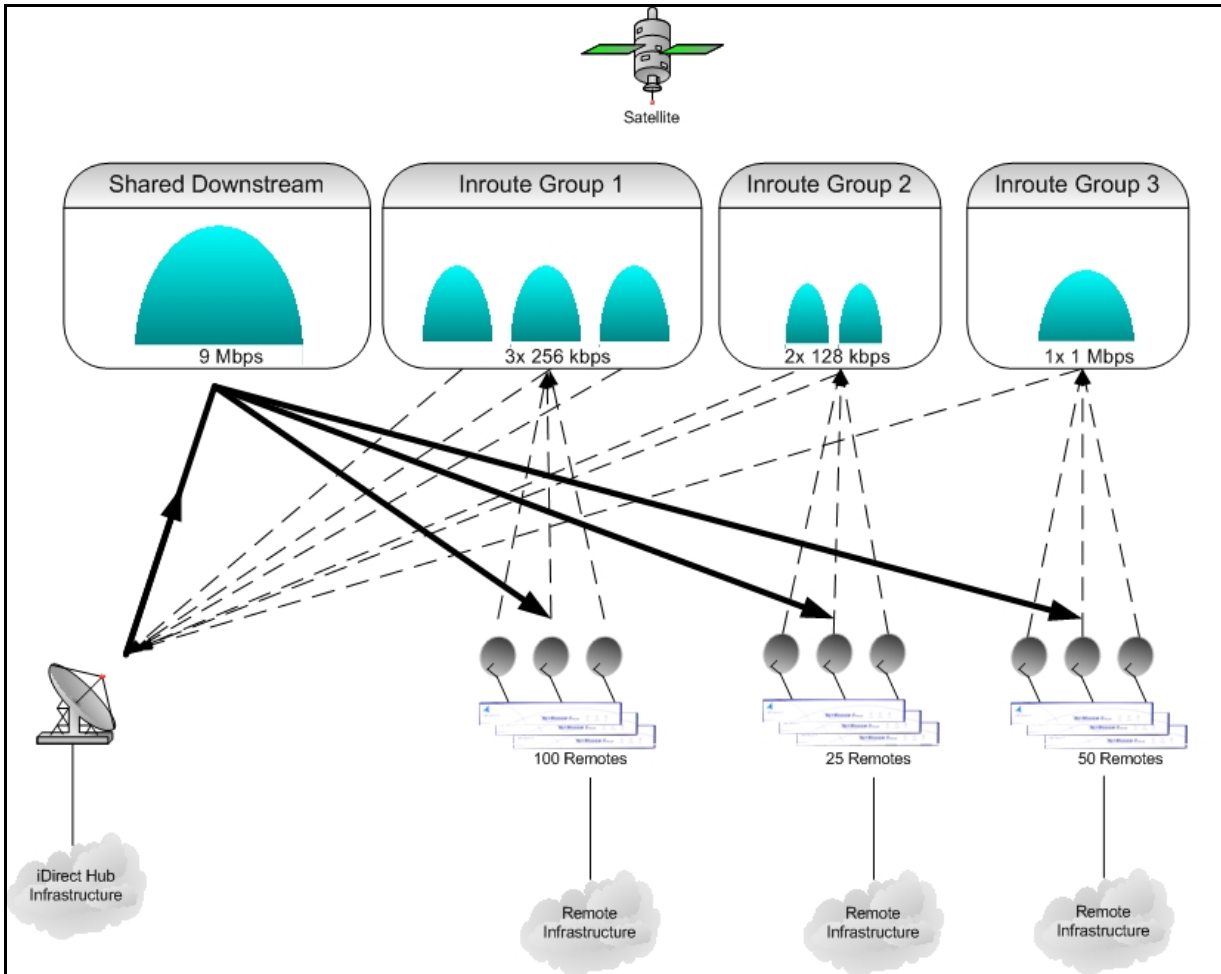

Figure 2-1: Example iDirect Network
As depicted in Figure 2-1 “Example iDirect Network”, p. 4, an iDirect network is a satellite based TCP/IP network with a star topology in which a Time Division Multiplexed (TDM) broadcast downstream channel from a central hub location is shared by a number of remote nodes. The iDirect Hub equipment consists of an iDirect Hub Chassis with Universal Line Cards, a Protocol Processor (PP), a Network Management System (NMS) and the appropriate RF equipment. Each remote node consists of an iDirect broadband router and the appropriate external VSAT equipment. The remotes transmit to the hub on one or more shared upstream carriers using Deterministic-TDMA (D-TDMA), based on dynamic timeplan slot assignment generated at the Protocol Processor.